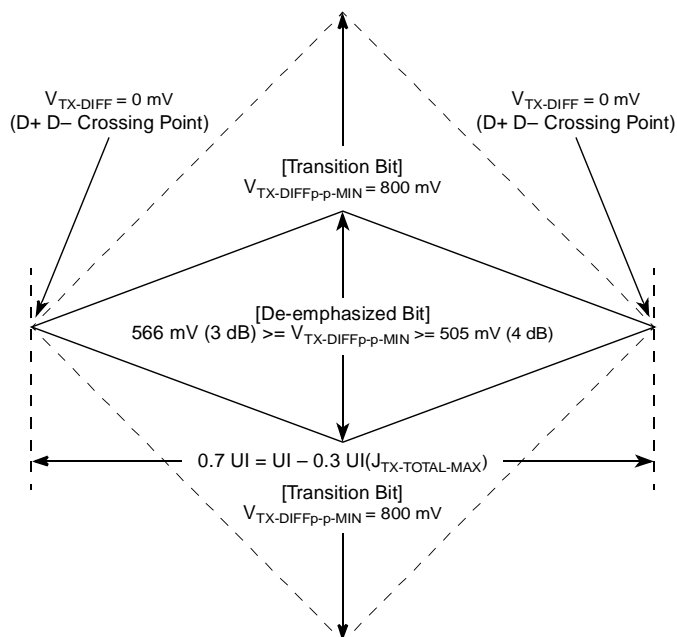
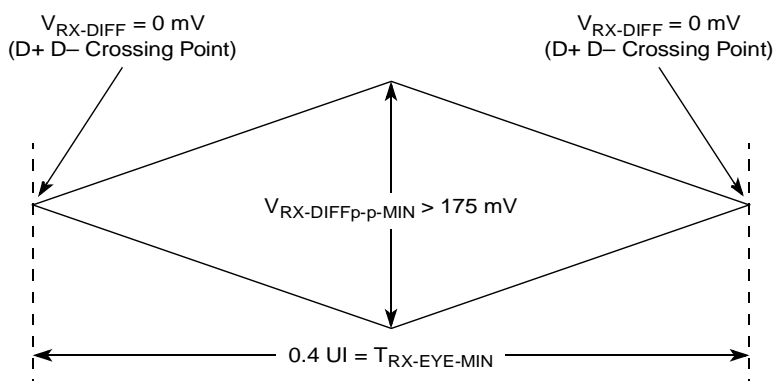
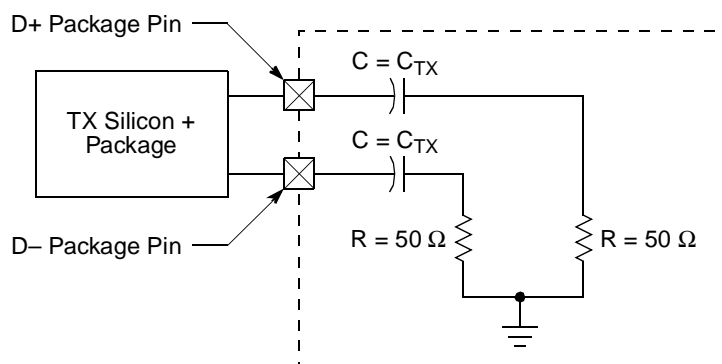

Figure 46. Minimum Transmitter Timing and Voltage Output Compliance Specifications
Figure 47. Minimum Receiver Eye Timing and Voltage Compliance Specification
Figure 48. Compliance Test/Measurement Load
- ² Specified at the measurement point into a timing and voltage compliance test load as shown in Figure 48 and measured over any 250 consecutive Tx UIs. (Also refer to the transmitter compliance eye diagram shown in Figure 46.)
- ⁴ The transmitter input impedance will result in a differential return loss greater than or equal to 12 dB and a common mode return loss greater than or equal to 6 dB over a frequency range of 50 MHz to 1.25 GHz. This input impedance requirement applies to all valid input levels. The reference impedance for return loss measurements is 50 Ω to ground for both the D+ and D– line (that is, as measured by a vector network analyzer with 50- Ω probes, see Figure 48). Note that the series capacitors, C_{TX} , is optional for the return loss measurement.
- ⁵ Measured between 20%–80% at transmitter package pins into a test load as shown in Figure 48 for both V_{TX-D+} and V_{TX-D-} .
The Tx eye diagram in Figure 46 is specified using the passive compliance/test measurement load (see Figure 48) in place of any real PCI Express interconnect + Rx component. There are two eye diagrams that must be met for the transmitter. Both diagrams must be aligned in time using the jitter median to locate the center of the eye diagram. The different eye diagrams differ in voltage depending on whether it is a
- ² Specified at the measurement point and measured over any 250 consecutive UIs. The test load in Figure 48 should be used as the Rx device when taking measurements (also refer to the receiver compliance eye diagram shown in Figure 47). If the clocks to the Rx and Tx are not derived from the same reference clock, the Tx UI recovered from 3500 consecutive UI must be used as a reference for the eye diagram.
- ⁴ The receiver input impedance will result in a differential return loss greater than or equal to 10 dB with the D+ line biased to 300 mV and the D– line biased to –300 mV and a common mode return loss greater than or equal to 6 dB (no bias required) over a frequency range of 50 MHz to 1.25 GHz. This input impedance requirement applies to all valid input levels. The reference impedance for return loss measurements for is 50 Ω to ground for both the D+ and D– line (that is, as measured by a vector network analyzer with 50- Ω probes, see Figure 48). Note that the series capacitors, C_{TX} , is optional for the return loss measurement.
The Rx eye diagram in Figure 47 is specified using the passive compliance/test measurement load (see Figure 48) in place of any real PCI Express Rx component. In general, the minimum receiver eye diagram measured with the compliance/test measurement load (see Figure 48) is larger than the minimum receiver eye diagram measured over a range of systems at the input receiver of any real PCI Express component. The degraded eye diagram at the input receiver is due to traces internal to the package as well as silicon
parasitic characteristics that cause the real PCI Express component to vary in impedance from the compliance/test measurement load. The input receiver eye diagram is implementation specific and is not specified. Rx component designer should provide additional margin to adequately compensate for the degraded minimum receiver eye diagram (shown in Figure 47) expected at the input receiver based on an adequate combination of system simulations and the return loss measured looking into the Rx package and silicon. The Rx eye diagram must be aligned in time using the jitter median to locate the center of the eye diagram.
The reference impedance for return loss measurements is 50. to ground for both the D+ and D– line (that is, as measured by a Vector Network Analyzer with 50. probes—see Figure 48). Note that the series capacitors, $C_{PEACCTX}$, are optional for the return loss measurement.
The AC timing and voltage parameters must be verified at the measurement point, as specified within 0.2 inches of the package pins, into a test/measurement load shown in Figure 48.